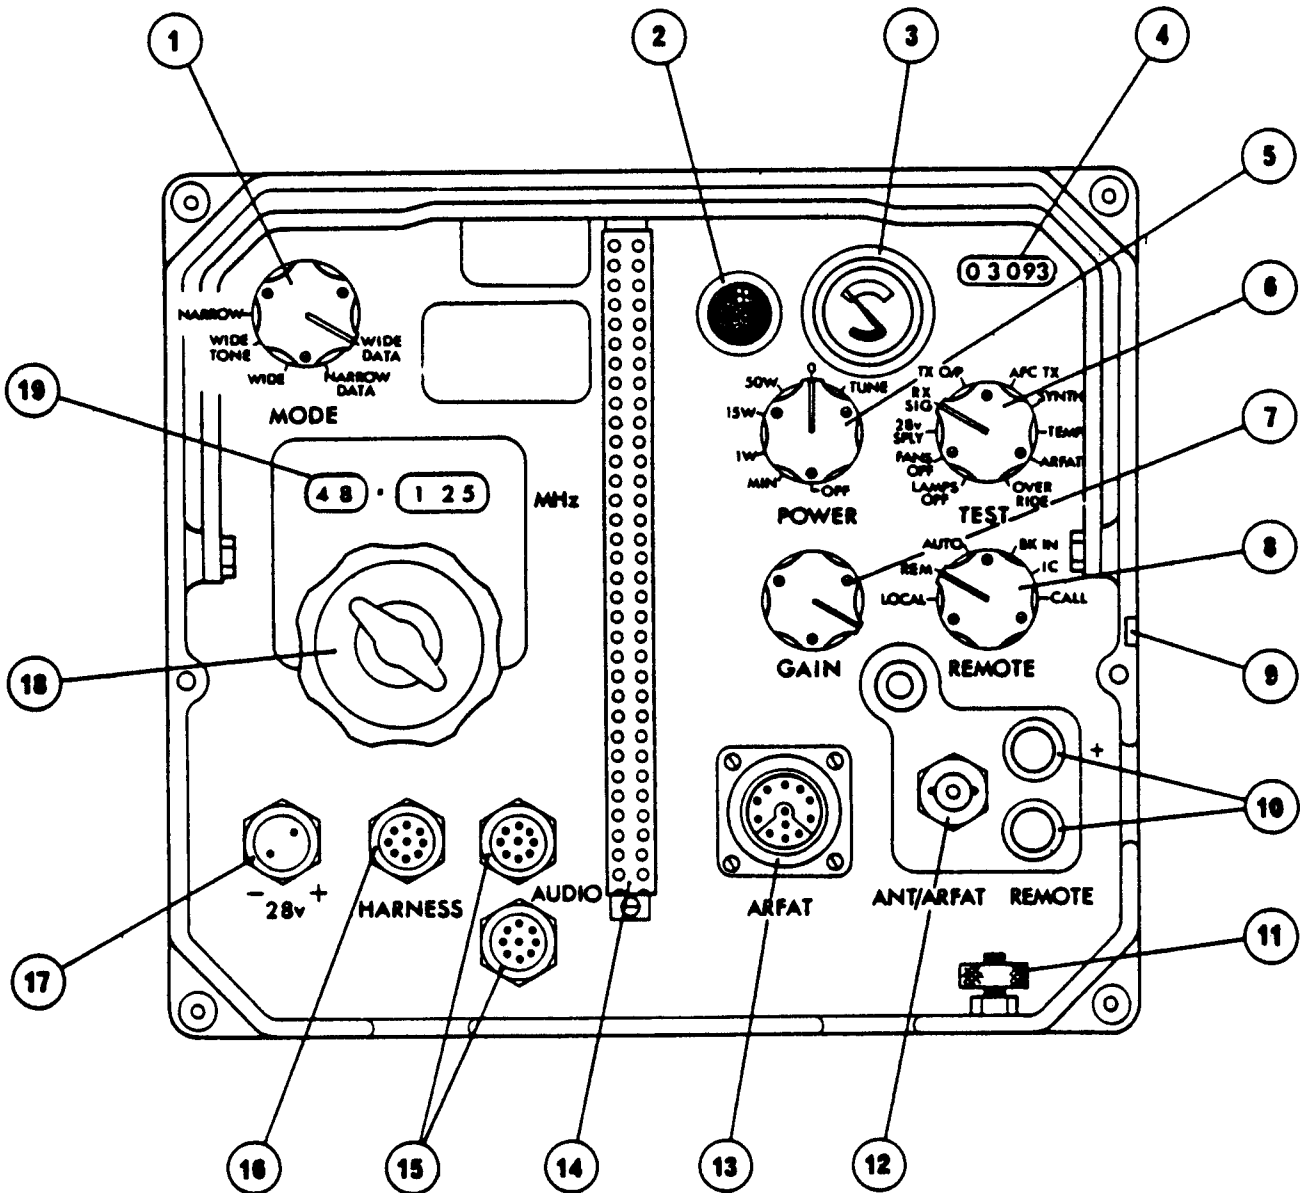

FIG. 3 CONTROLS AND CONNECTIONS
2.1 Sub-sub paragraph designations relate to illustration reference in Fig. 3.